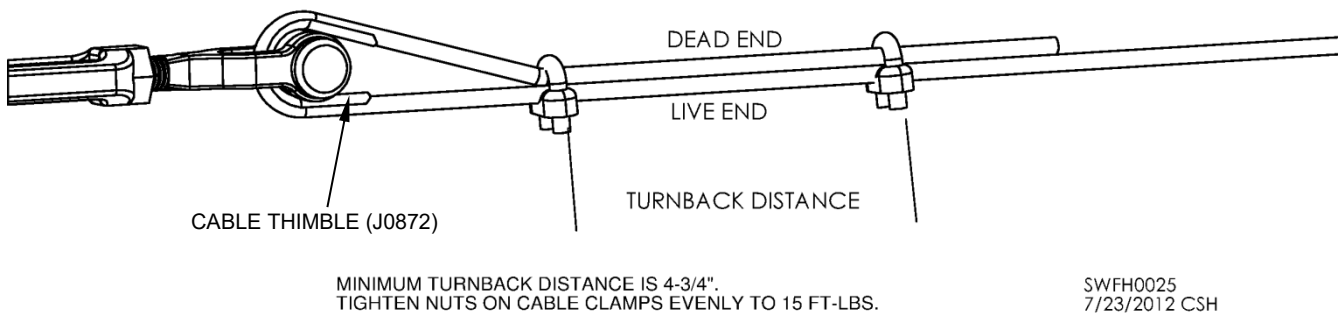

Fig. 8 - Clamping suspension cables
6. Attach suspension cables. Loop cable through hole in bin bracket as shown in Fig. 5, using a cable thimble (Item 2, J0872) to prevent cable wear. Loop other end of cable around bolt in jaw of turnbuckle, also using a cable thimble as shown in Fig. 8. At each loop use two (2) cable clamps (Item 8, J3260) as shown in Fig. 8. Place first cable clamp as close as possible to thimble. Saddle of cable clamp should grip live end of cable. Place second clamp at least 4-3/4" from first as shown in Fig. 8. Tighten clamp nuts equally, alternating from one nut to other, to 15 ft. lbs. of torque. Repeat process for other suspension cable.